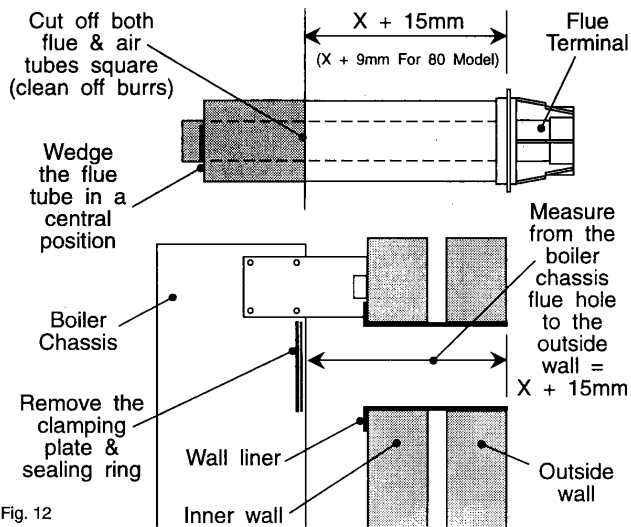

Fig. 12
9. Measure the wall thickness from the edge of the outer wall to the flue hole in the boiler chassis. Add 15mm (9mm for 80 model) and mark this distance on the flue from the terminal flange. See Fig. 12. Put wedges in the end of the flue to stop the outer flue compressing onto the inner. Cut squarely through both the inner and outer tubes. Remove all burrs.